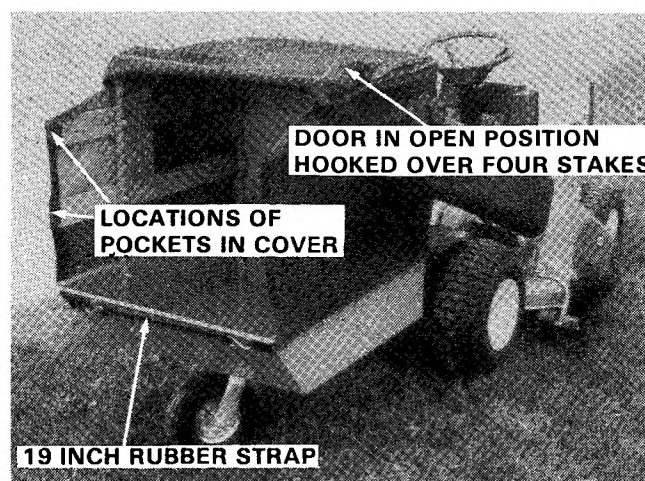

Figure 15.
- b. Pull the elastic bottom of the cover over the front edge of the cart. Next pull the cover back to the ends of the wood sides and slide the pockets (at the end of the cover) over the ends of the two wood boards on each side. (See figure 15).